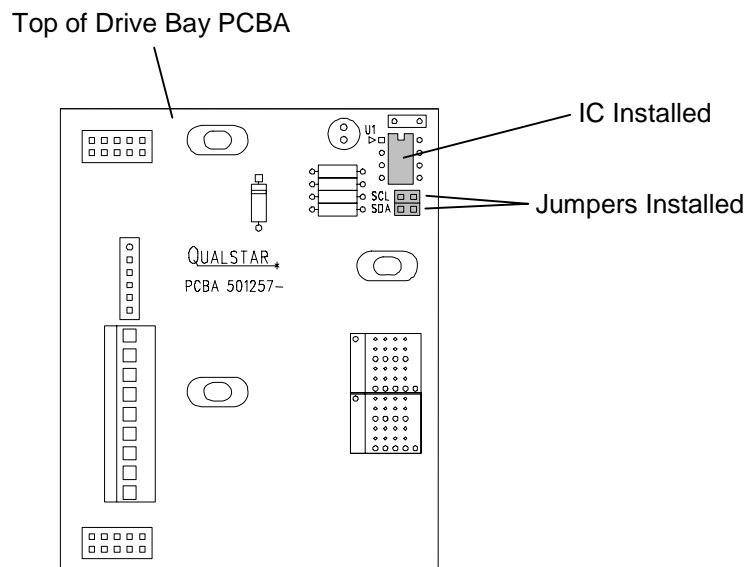

Figure 7-52 62xx and 82xx Model Drive Bay PCBA Jumper and IC Configuration
1. Before replacing the Drive Bay PCBA, determine that the board has the proper jumper and IC (integrated circuit) configuration. Jumpers must be installed on the board at the SCL and SDA connectors and the IC component must be installed at location U1. See Figure 7-52.